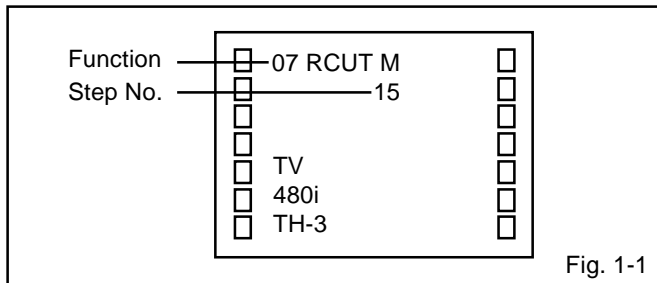

Fig. 1-1
2. Press the VOL. DOWN button on the set and the Channel button (9) on the remote control for more than 2 second to appear the adjustment mode on the screen as shown in Fig. 1-1.
1. Activate the adjustment mode display of **Fig. 1-1** and press the channel button (**53**) on the remote control to select "CONT MAX".
6. Activate the adjustment mode display of **Fig. 1-1** and press the channel button (**53**) on the remote control to select "CONT MAX".